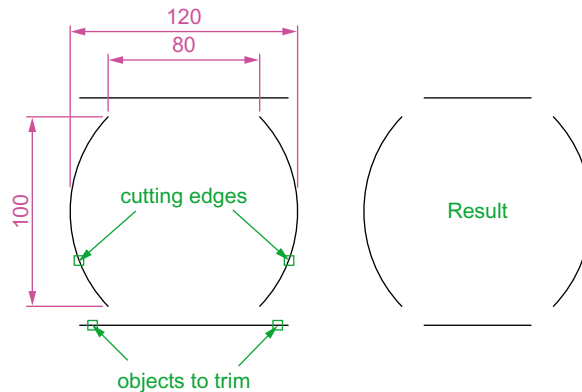

Fig. 5.32 Second example – Trim
Second example – Trim (Fig. 5.32)
1. Construct the left-hand drawing of Fig. 5.32.
3. Repeat for the other required trims. The result is given in Fig. 5.32.